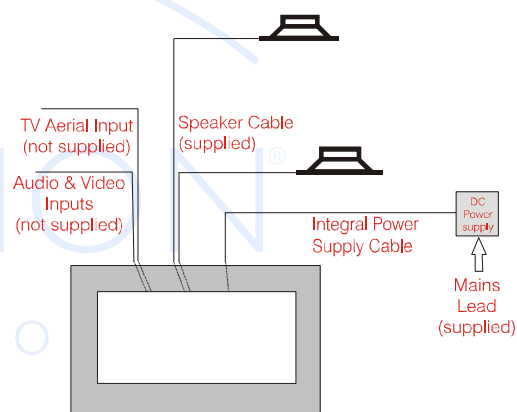

Fig 1. Cabling Schematic:
3. Run the cables to their positions as shown in Fig. 1, ensuring that there is enough cable slack for connection at the rear of the AQUAVISION. Ensure that the cables are easily available and cannot fall back into the cavity, etc.